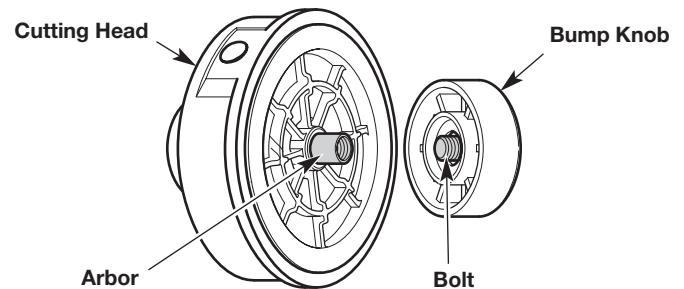

Fig. 15
1. Hold the cutting head in place (Fig. 15). Turn the bump knob clockwise to unscrew it from the cutting head (Fig. 15).
2. Inspect the bolt inside the bump knob to make sure it moves freely (Fig. 15). Replace the bump knob if it is damaged.
5. While holding the inner reel and outer spool together, screw the bump knob on counterclockwise (Fig. 15). Tighten the bump knob securely.